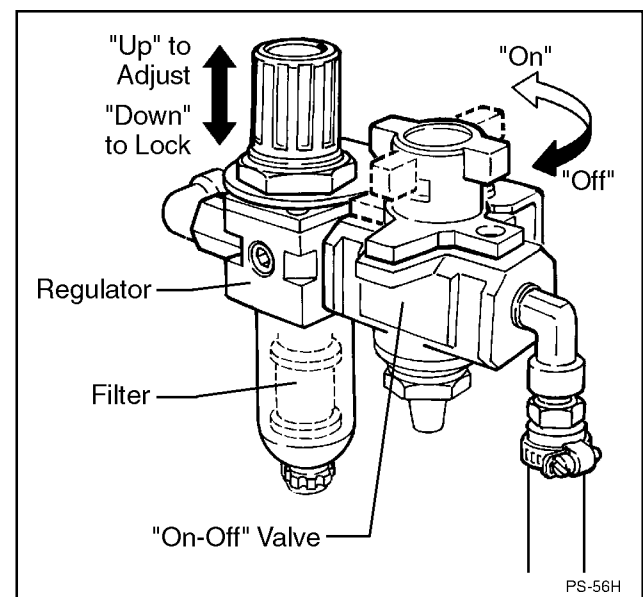

Figure 3-3 – "On/Off" Valve/Regulator/Filter
② Main Air "On/Off" Valve/Pressure Regulator/Filter – Figure 3-3.